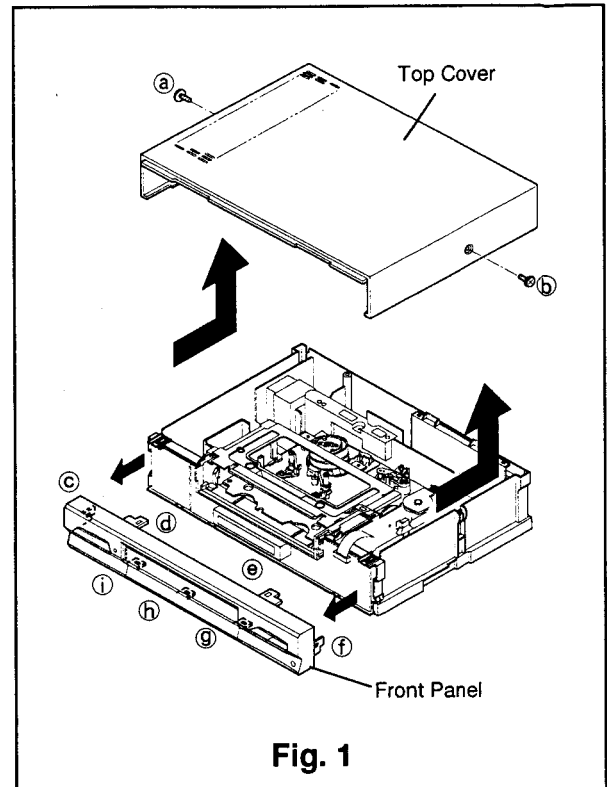

Fig. 1
- ① Remove the two Top Cover fastening screws (a) and (b) shown in Fig. 1 and remove the Top Cover in the direction shown by the arrows.
- ① Remove the Top Cover referring to Para. 1 of the DISASSEMBLY.
- ② Unfasten seven catches (c~i), two on the top, two on the side, and three on the bottom, and remove the Front Panel in the direction shown by the arrows.